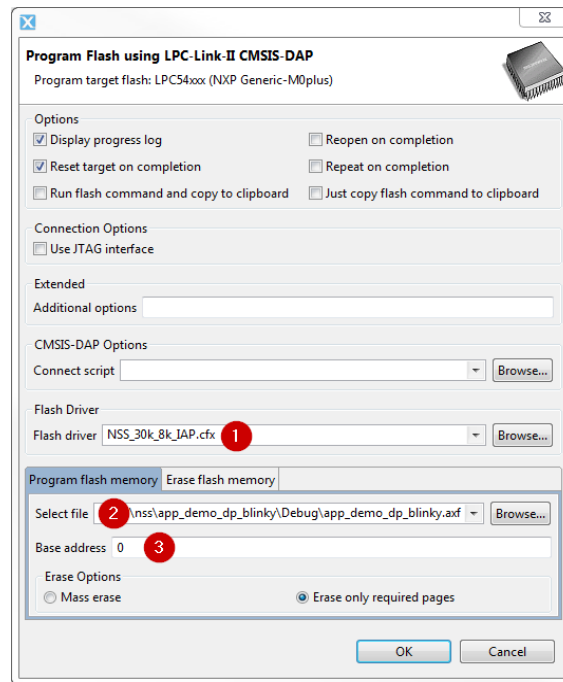

Figure 21: The Program Flash dialog
- In the dialog that pops up, verify these settings – see also Figure 21: